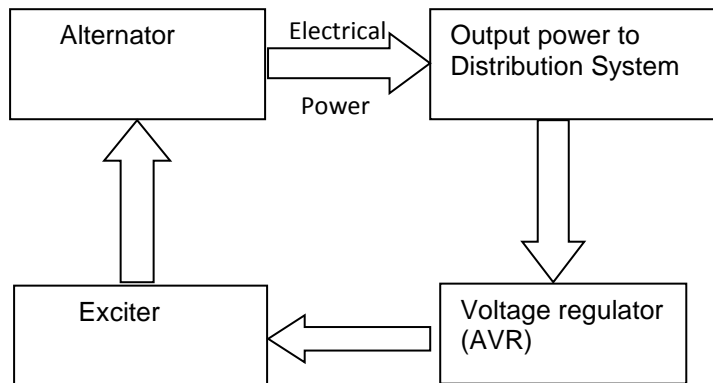

Figure 8-Digram of voltage control loop
19. Control of the output frequency of an alternator is achieved by controlling the speed of the prime mover - usually by some form of automatic engine speed governor. Control of the output voltage from a SINGLE alternator is usually controlled by automatically adjusting the d.c. excitation to the revolving field. Figure 8 shows the control loop of an automatic voltage regulator (AVR) monitoring the output voltage controls the d.c. excitation current that supplies the field windings of the alternator.